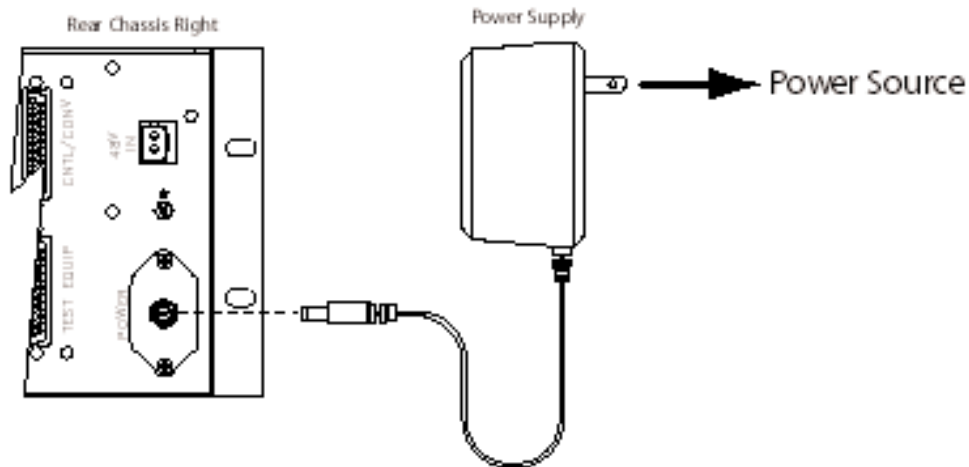

Figure 3-3. Power connection (110 VAC).
2. Connect the power supply to the appropriate 110- or 220-VAC power source (see Figure 3-3).